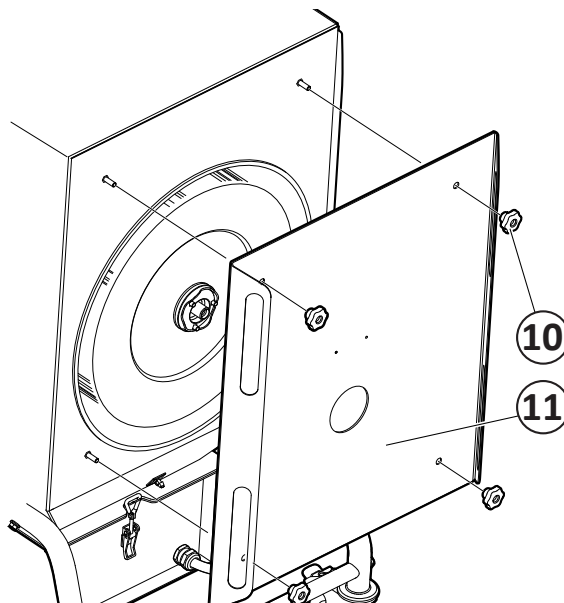

Fig. 20
5. Unscrew the lock nuts (6) for the cover plate (7).
6. Remove the bearings (8).
7. Unscrew the knobs (10, Fig. 20) and remove the filter cover (11).
5. Refit and secure the filter cover (10, Fig. 20) on the chassis. Check that the filter cartridge is centred on the hole in the filter cover and that the seal between the cover and chassis correct.
11. Refit and secure the filter cover (10, **Fig. 20**) on the chassis. Check that the filter cartridge is centred on the hole in the filter cover and that the seal between the cover and chassis correct.